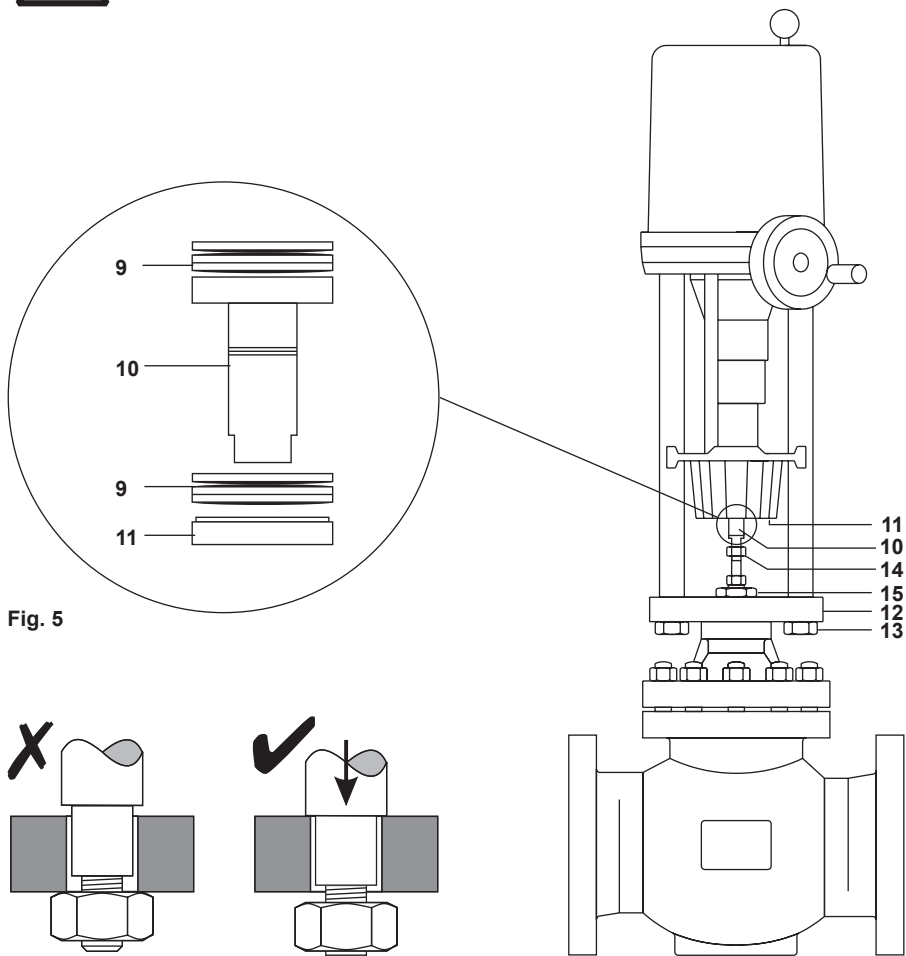

Fig. 5
There are 2 sets of 3 disc springs, which must be assembled in the correct order. The convex side of a spring must be assembled to the convex side of the next spring. Conversely, the concave side of the spring must be assembled to the concave side of the next spring. Insert the first set of springs (9, see Figure 5) inside the actuator adaptor mounting. Next push the valve adaptor (10) inside the actuator mounting so that the springs are pushed up to the top. Push the second set of disc springs (9) over the adaptor nut (11) into the actuator by hand. The nut should be screwed in until the adaptor is held firmly inside the actuator, but not too tight such that the adaptor cannot be rotated.